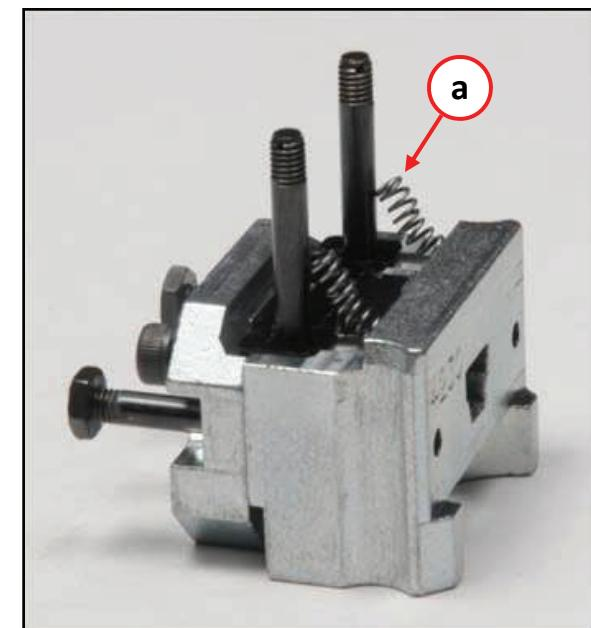

Figure 14
- 8) Reassemble die with new Blade in reverse order of "Blade Service" steps 4-7. Note: To ease Blade Tab insertion into Blade Return Springs, position springs on the Blade Guide Posts as shown in Figure 14 (a). Ensure Blade rests flat against Blade Spacer prior to sliding Blade Guide Block onto the assembly.